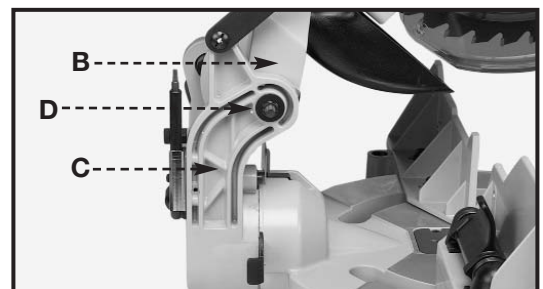

Fig. 31
After a period of time, an adjustment of the sliding fit between the cuttinghead arm (B) Fig. 31, and the trunnion (C) may be necessary. To adjust, tighten or loosen the nut (D). Correct adjustment provides a snug sliding fit between these two parts. This adjustment should not be so tight that it restricts the sliding movement of the cuttinghead arm (B) or so loose that it affects the accuracy of the saw cut.